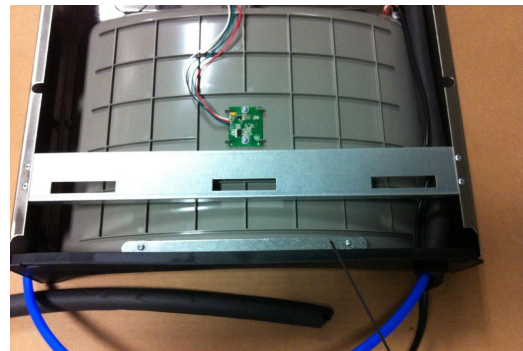

Fig. 9
- 6) Install gasket on bottom of bottle filler tower with gasket support bracket & (2) screws (See Fig 9).